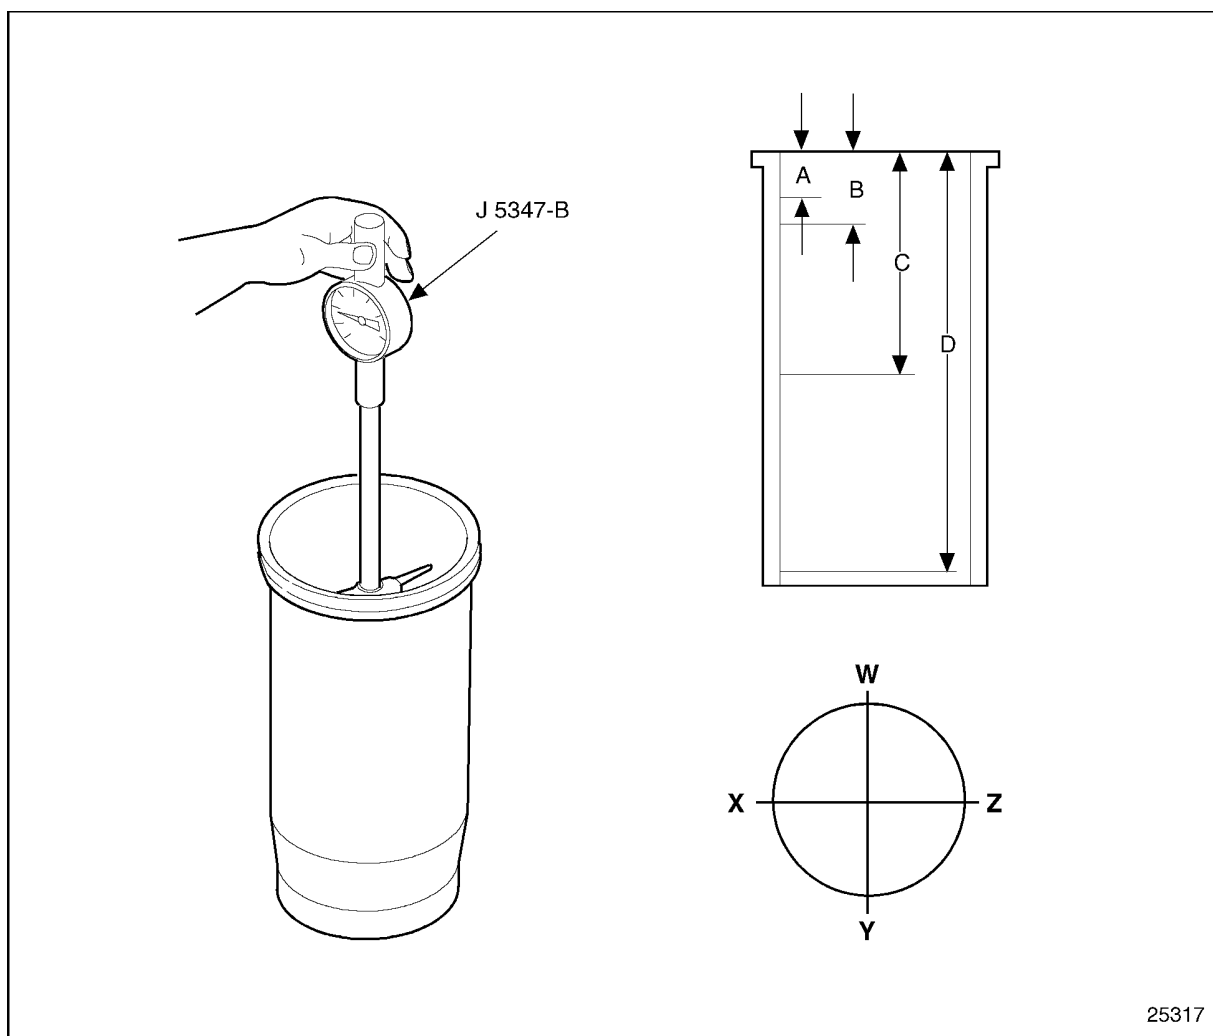

Figure 1-265 **Cylinder Liner Measurement Diagram**
- [a] Set the cylinder bore gage on zero in master setting fixture. Use cylinder bore gage, J 5347-B, to measure diameter of the liner of various points. The maximum diameter of a used liner after is 130.100 mm (5.122 in.) at any measurement location. See Figure 1-265. Also check the liner for taper and out-of-round.